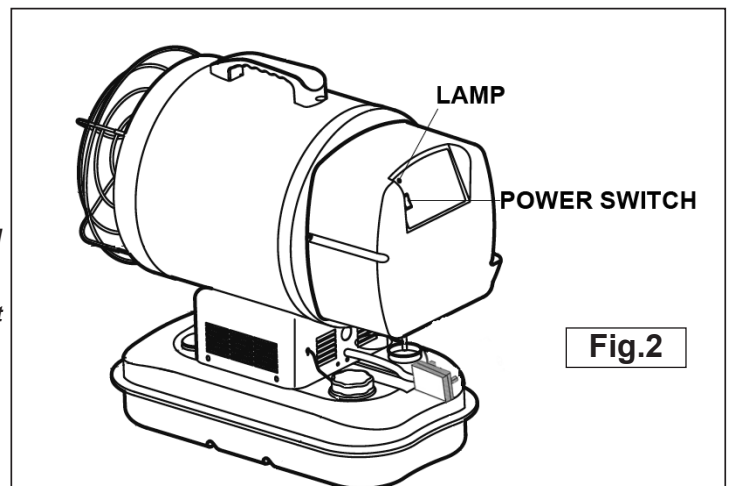

Fig.2
- 5.1.4. Push the Power switch (Fig.2) to the "ON" position.
- 5.2.1 Turn the power switch (Fig.2) to the "OFF" position. Combustion will stop and the Cooling Cycle (approx. 4-5minutes) will begin.